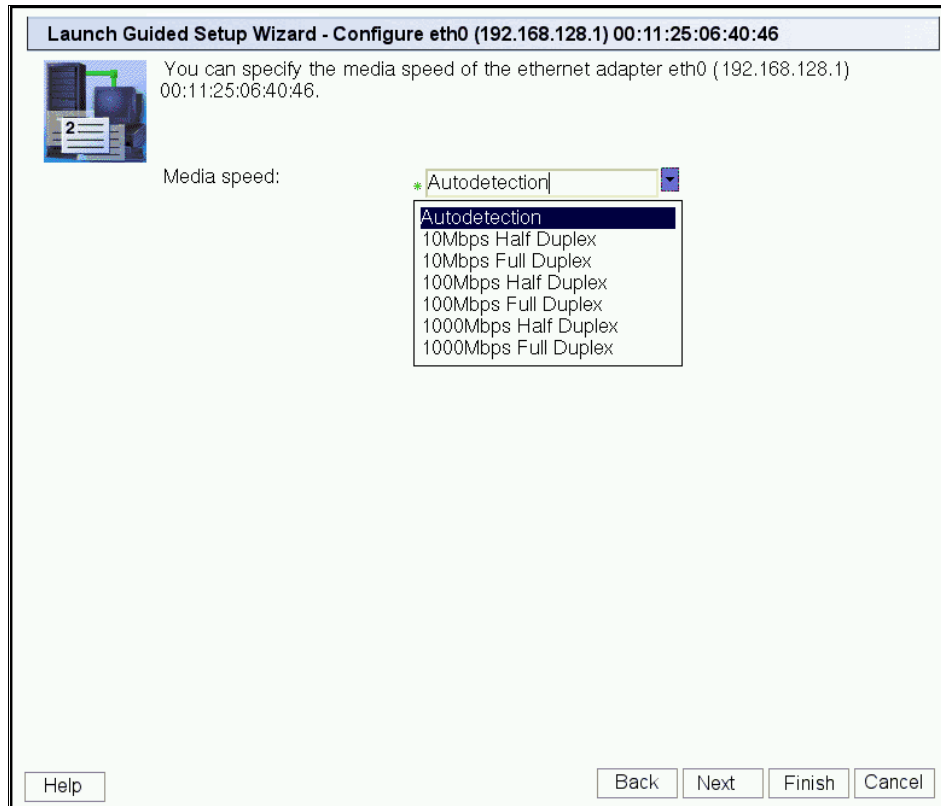

Figure 3-18 Launch Guided Setup Wizard - Configure eth0 Media Speed
11. The Launch Guided Setup Wizard - Configure eth0 Media Speed panel displays (Figure 3-18). You can choose the LAN adapter speed at Autodetection for initial setup, or you can set the adapter speed if you know the information.